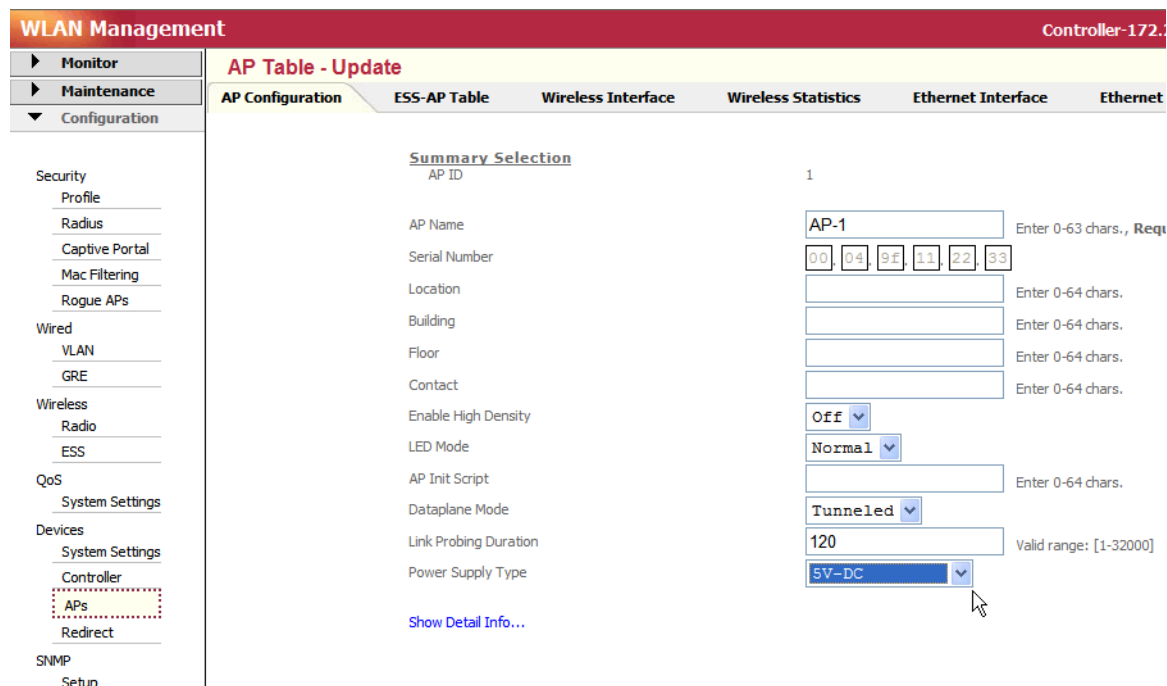

Figure 10: Changing Power Supply Type
3. Click the arrow that corresponds to the AP300 to change. The AP configuration for that AP is displayed. See Figure 10.